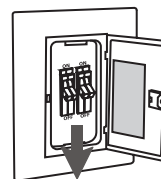

FIGURE 4
1. Disconnect power to the fan location. A licensed electrician must install the fan. (Fig. 4)